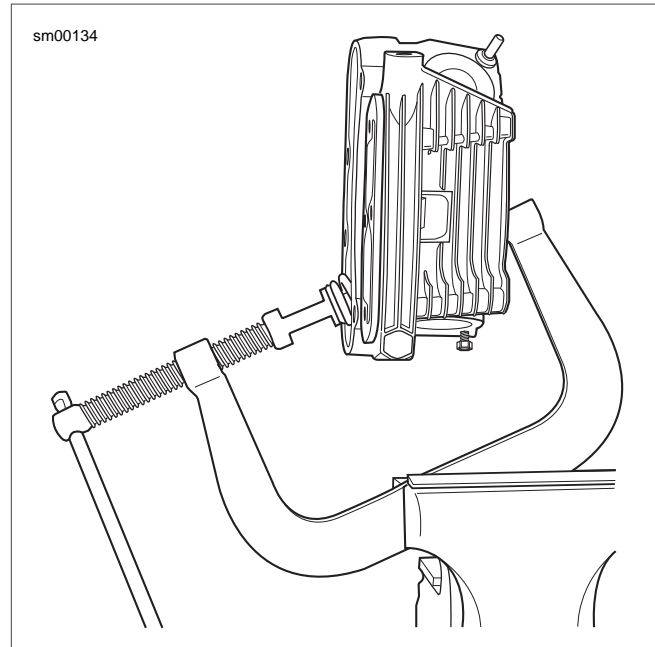

Figure 3-63. Valve Spring Compressor
9. See Figure 3-63. Compress spring with VALVE SPRING COMPRESSOR (Part No. HD-34736B).